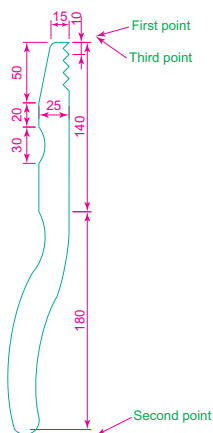

Fig. 14.16 First example – **3D Mirror** – outline of object to be mirrored
1. Working on a layer colour **green**, construct the outline Fig. 14.16.